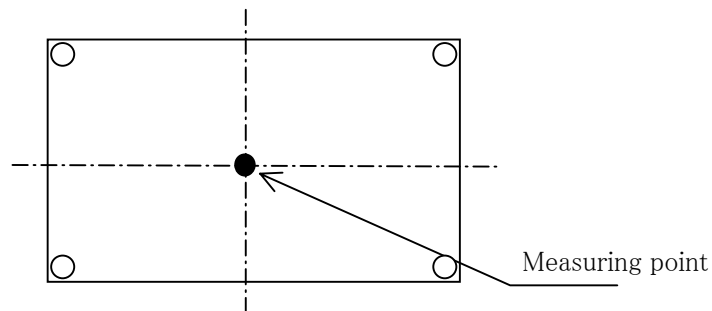

Fig.1.1 Measuring point of aluminum base plate temperature.
- (1) Input : DC 36 ~ 76 [V]
- (2) Output : Rated output
- (3) Aluminum base plate temp. : 85 [°C] (Fig1.1)